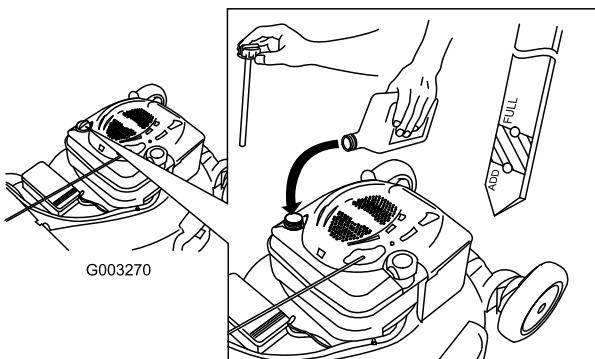

Figure 13
1. Remove the dipstick, wipe it clean, and fully install the dipstick (Figure 13).
2. Remove the dipstick and check the oil level (Figure 13). If the oil level is below the Add mark on the dipstick, **slowly** pour oil into the oil fill tube to raise the oil level to the Full mark on the dipstick.